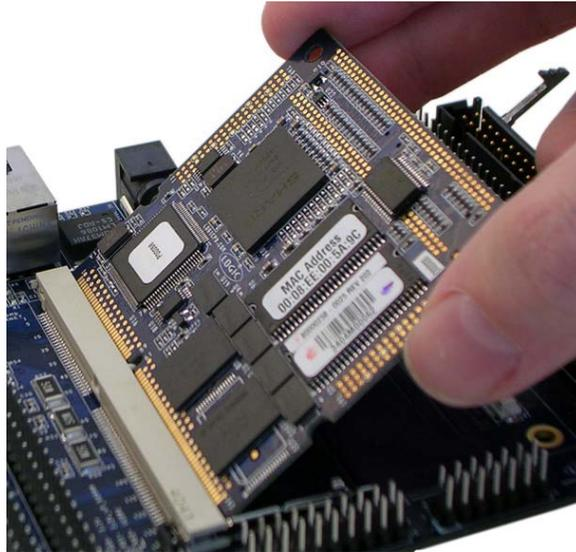

Figure 2 – Insert Card Engine into SODIMM Connector
1. Firmly press the Card Engine into the SODIMM connector until it is fully seated (see Figure 2).